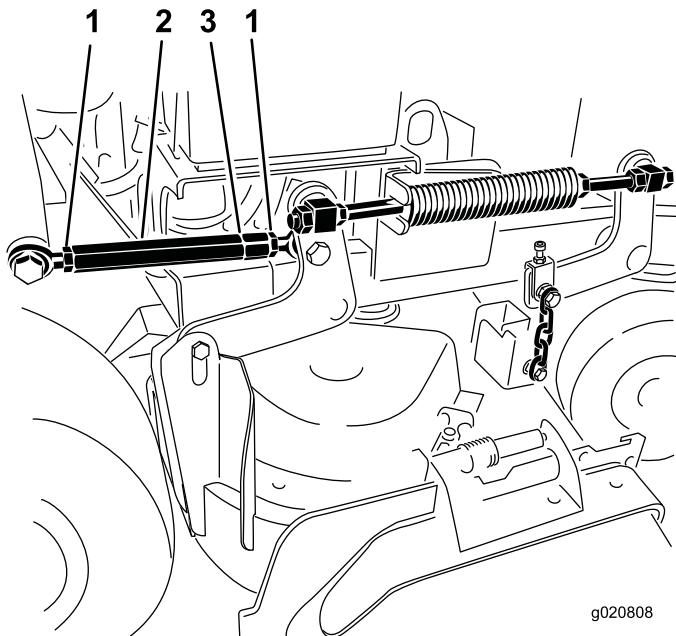

Figure 86
5. Loosen the jam nuts at both ends of the turnbuckle (Figure 86).
Note: The end of the turnbuckle with the groove machined in it, has left hand threads (Figure 86).